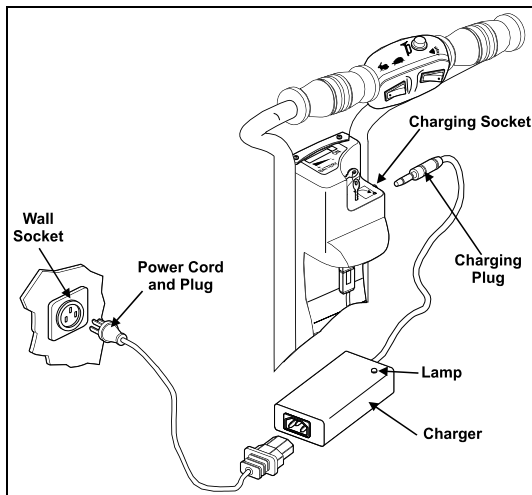

Figure 24
5.1 Charging Batteries (See Fig. 24)